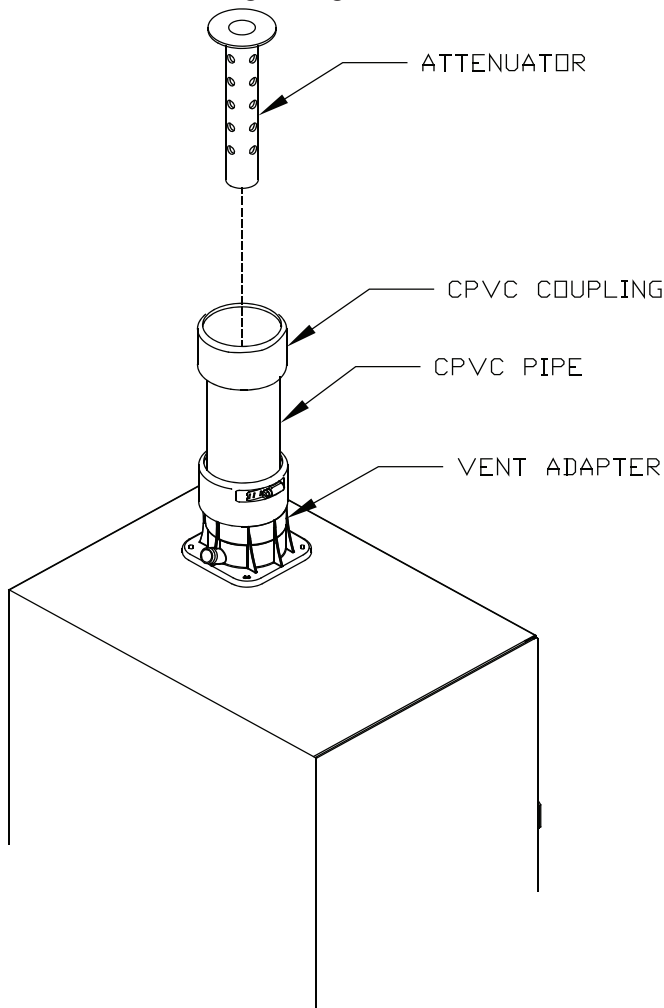

Figure 7.1A: Installation of Vent Side Attenuator
4. Vent Side Noise Attenuator - This boiler comes with a vent side noise attenuator. If equivalent vent length is less than 70 equivalent ft. (3" venting) or 30 equivalent ft. (2" venting), install a noise attenuator as described below. Attenuator is not required on sizes 080-120 at altitudes above 2000ft. Refer to Figure 7.1A.